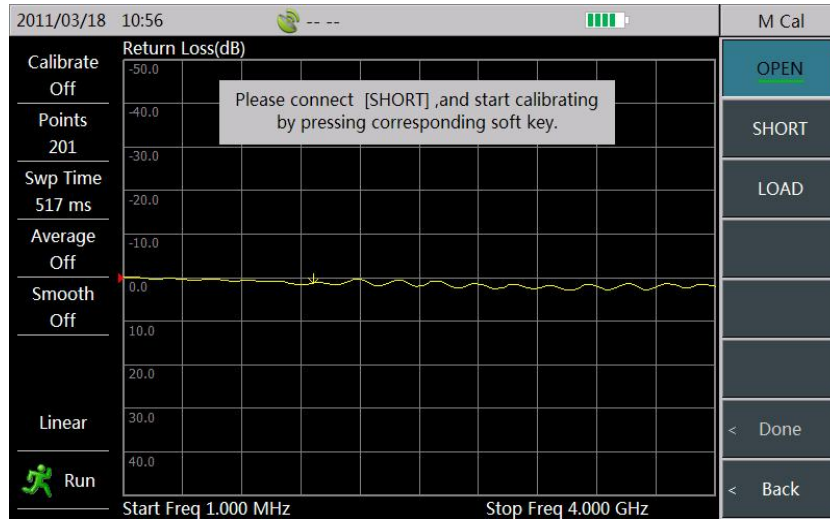

Figure 3.3 Completion of Open Calibration
- Connect the open to the test port and select the [OPEN] menu. At this time, the screen will automatically prompt “[OPEN]Measuring……”. When the [Open] menu becomes into [OPEN], it indicates the completion of the open circuit calibration. Figure 3.3 below indicates the completion of open circuit measurement.